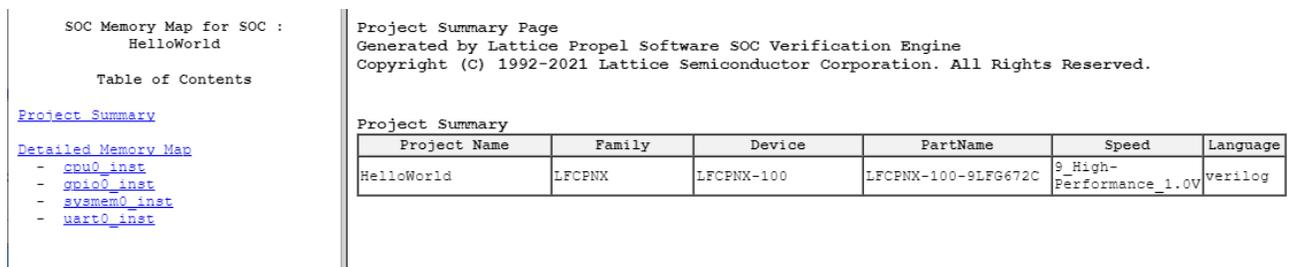

Figure 2.58. Memory Report
- From the toolbar of the Propel Builder main window, click the **Generate Memory Report** icon . The SoC design memory information is generated. The memory report folder (mem_report) is generated. All design memory information is shown in detail in the memory report files. The Memory Report files are in HTML format (Figure 2.58).